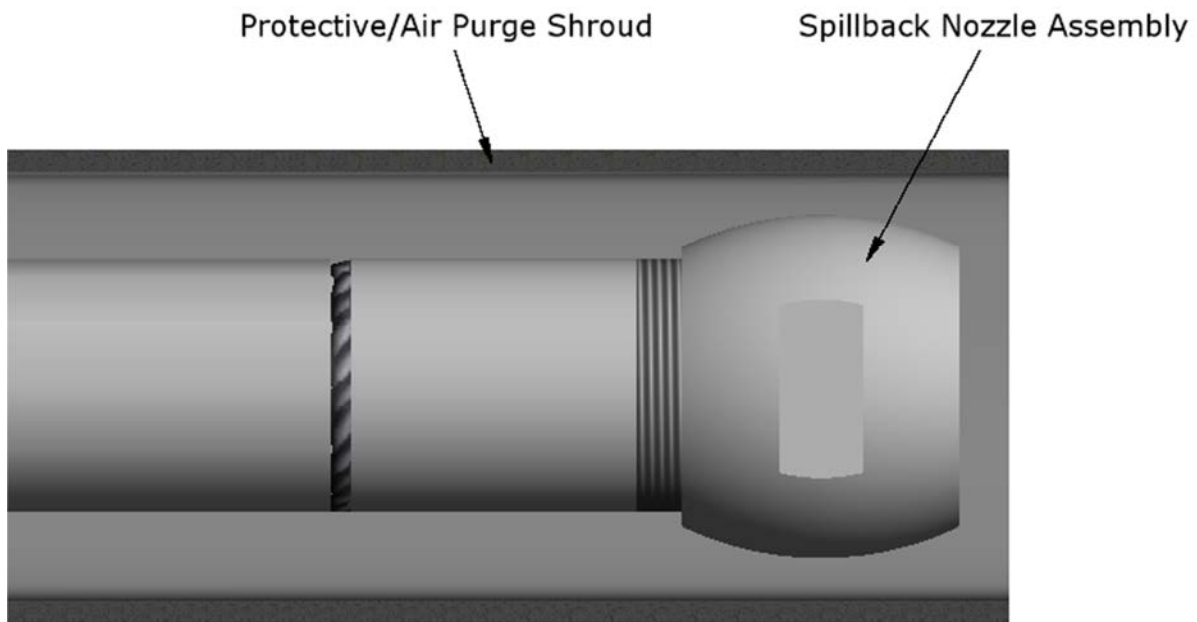

Figure 4: Nozzle Tip and Protective Shroud
- Figure 4: Nozzle Tip and Protective Shroud 7
- **Protective Shroud:** The protective shroud is a pipe that covers the lance. (See Figure 4 & 5)
- **Air Purge Shroud:** The air purge shroud is the same as the protective shroud with the addition of an inlet to provide a constant flow of purge air to cool the lance and reduce buildup. (See Figure 4 & 5)